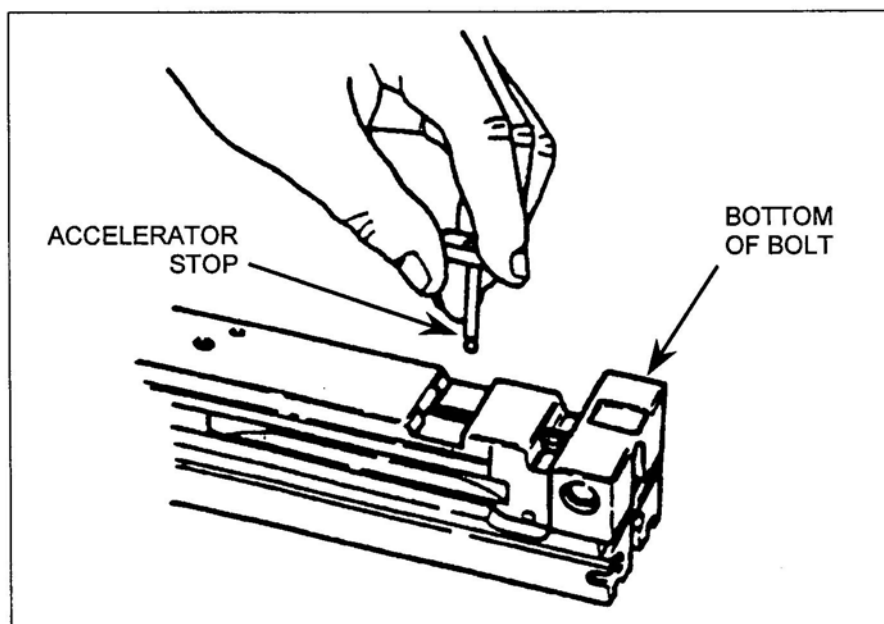

Figure 33. Attachment of the accelerator stop.
- (6) Insert pin end of accelerator stop through bottom of bolt (Figure 33).